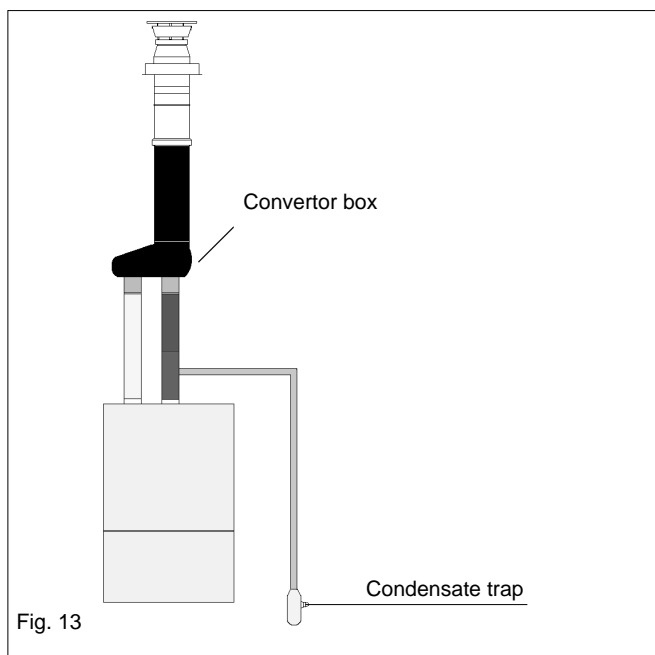

Fig. 13
4.5.3.4 VERTICAL TERMINATION (see fig. 13)